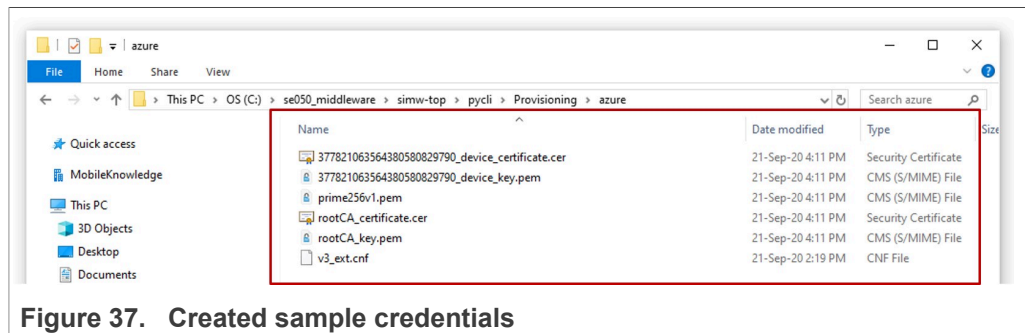

Figure 37. Created sample credentials
- Make sure that a set of sample credentials have been generated inside `simw-top\pycli\Provisioning\azure` folder, as shown in Figure 37: